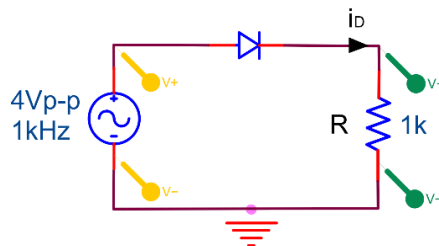

Figure 2.7
- Build Figure 2.7 and use the oscilloscope to measure and record the input voltage and the resistor voltage.
3. Use your modified diode and simulate the circuit in Figure 2.7. Plot the input voltage and the resistor voltage. Compare these results to your measurements.